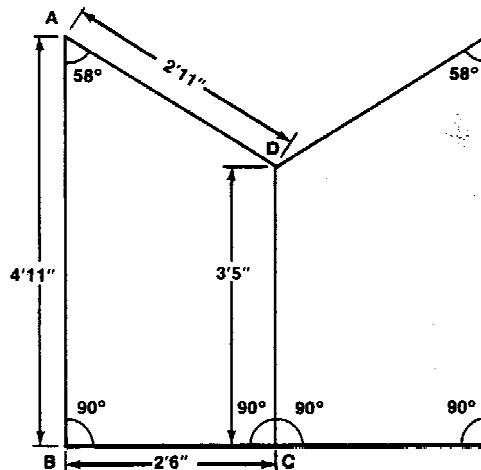

Figure 2. Insulation side sections.
1. Cut two sections--mirror images of one another--to fit on either side of the drum as shown in Figure 2. Dimensions are: 4 ft. 11 in. x 2 ft. 6 in. x 3 ft. 5 in. x 2 ft. 11 in. Cut side A-D on an angle as shown.